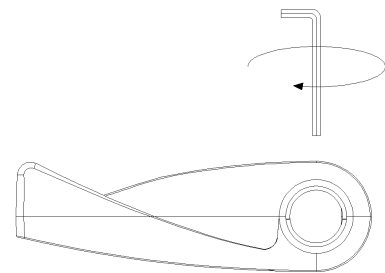

Fig. 7
6. Check that the WHISTLE is securely fixed to heating element (Fig.7). Connect the controller supply cord to the mains according to the standards and regulations in force in the country where installation is carried out.